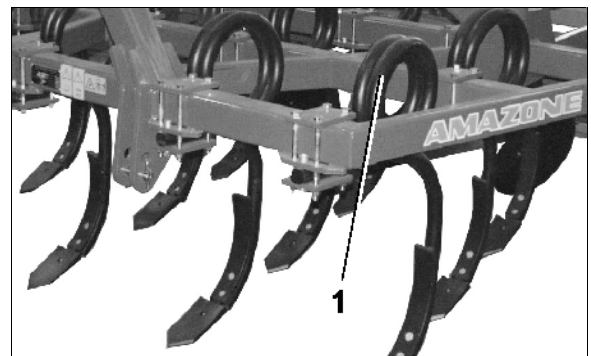

Fig. 12
- **Round steel tines (Fig. 12/1)**